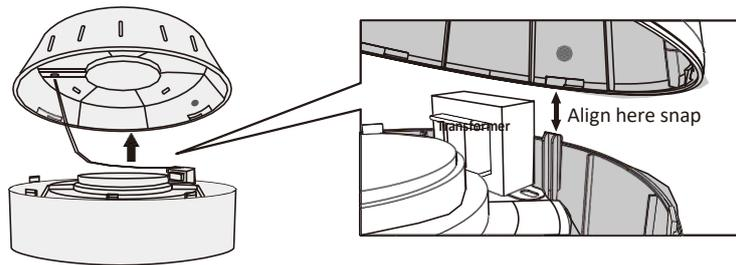
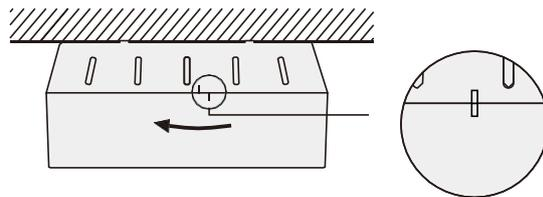

Figure 4
Figure 5
4.Buckle with one end of the projection of the transformer in the base,the female buckle top with blue dots alignment mark,push in parallel(As show in figure4). counter clockwise rotation base,hear a click,align the adge line that fastens the top cover and the pedestal(As show in figure 5),check whether the equipment is installed firmly.